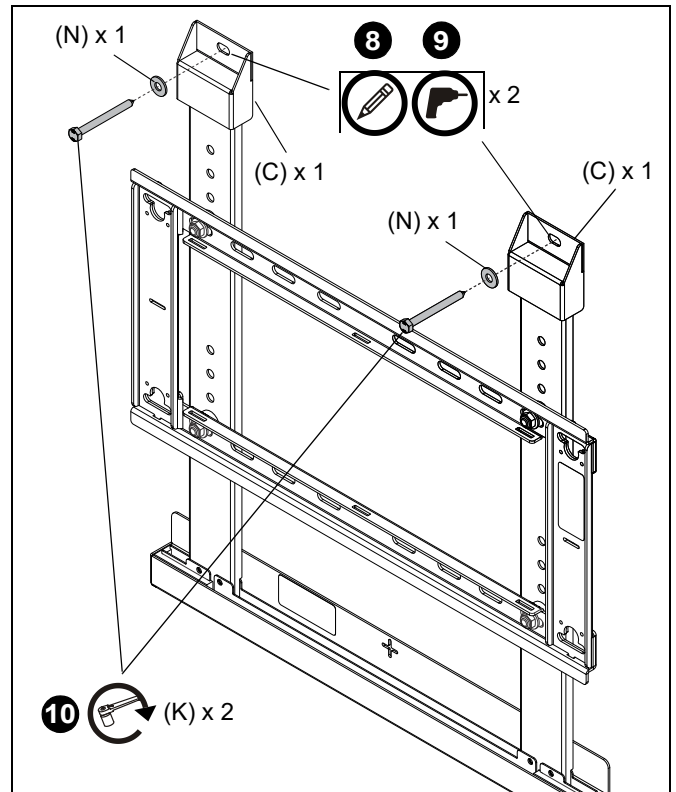

Figure 6
8. Mark the locations of the mounting slots in both top caps (C), then remove the caps from the vertical brackets (A).
9. Drill one pilot hole at each marked location. (See Figure 6)
10. Replace top caps (C) and install using two 1/4" x 2-1/2" lag bolts (K) and 1/4" washers (N). (See Figure 6)